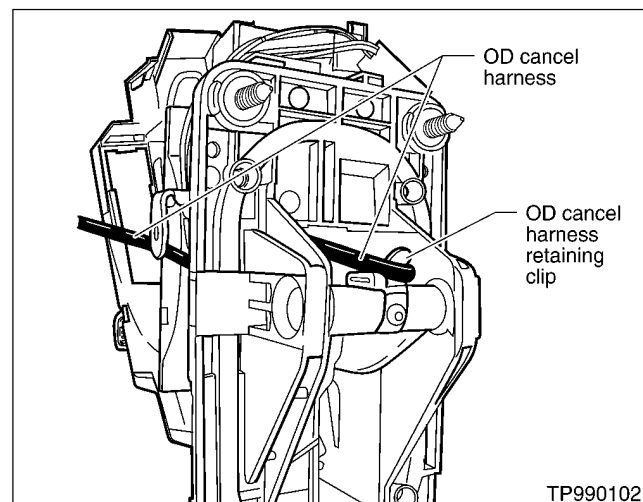

Figure 6
13. Release the clip for the OD cancel switch harness (Figure 6).